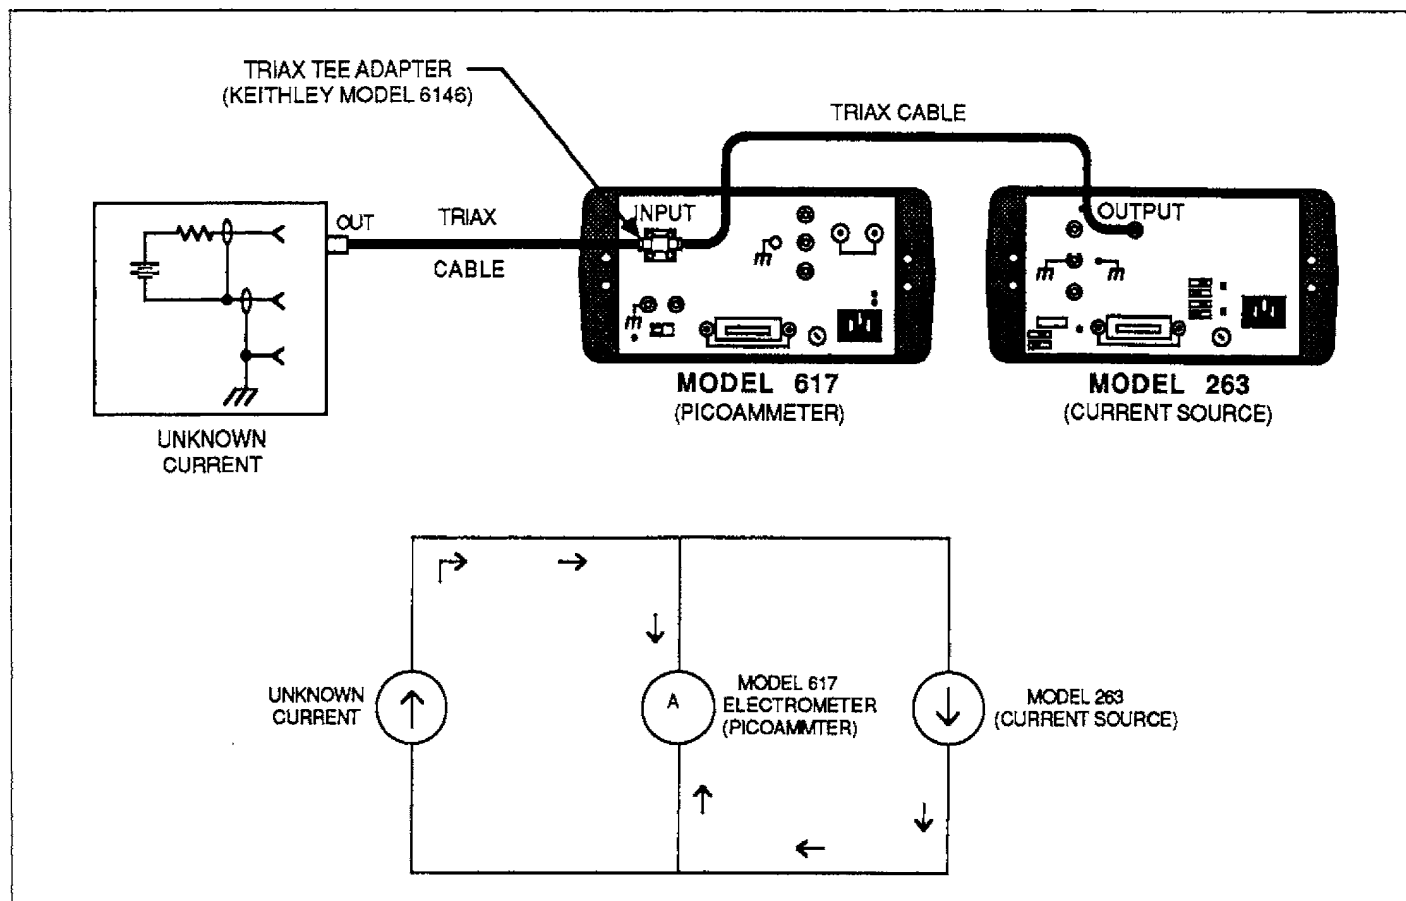

Figure 5-14. Nulling Circuit
The basic circuit for current suppression is shown in Figure 5-14. The Keithley Model 617 Electrometer is used as the current measuring device. Other instruments with similar characteristics will serve equally well in this application.
2. Connect the Model 263 as shown in Figure 5-14.
In practice, using the Model 263 for galvanometric measurements is very similar to the current suppression procedure discussed in the previous paragraph. In this application the Model 263 bucks out an unknown current, while a current measuring instrument, such as the Model 617, serves as a null detector (see Figure 5-14).